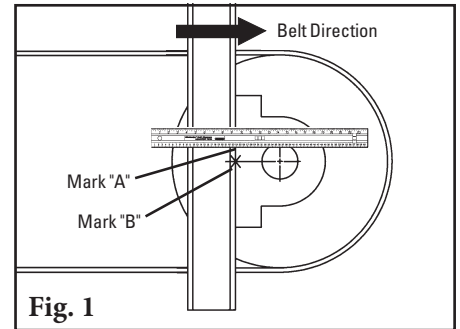

Fig. 1
3. **Using a level on top of the pulley shaft, draw a horizontal line (A).** Measure down from Line A half the diameter of the pulley shaft and draw Line B parallel from the pulley shaft (Fig. 1).
- Put a level on top of the pulley shaft and make a mark (A) on the structure.** Measure down from Mark A half the diameter of the pulley shaft and make another mark (B), locating the shaft's centreline (Fig. 1).
1. Assemble the tension spring and the J bolt mount to an adjusting arm (Fig. 1).
1. **Install the pole.** Remove the two bearing mount bolts from one of the bearing mounts (Fig. 1). (For chute mounting, remove the bolts from the same side as the access hole.) Slide the pole across the pulley and into the bearing mount on other side and allow the tips to hang down. Install the removed bearing mount on the pole and reattach it to the mounting bracket.